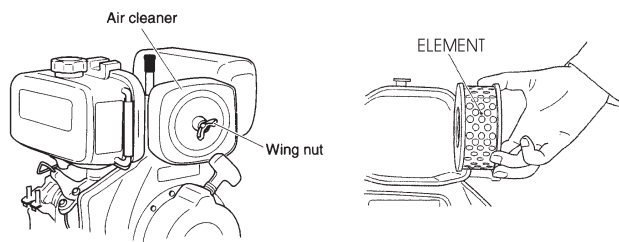

Figure 18. Air Filter
1. Remove the air cleaner cover and foam filter element as shown in Figure 18.
2. Tap the paper filter element (Figure 18) several times on a hard surface to remove dirt, or blow compressed air [not exceeding 30 psi (207 kPa, 2.1 kgf/cm²)] through the filter element from the air cleaner case side.